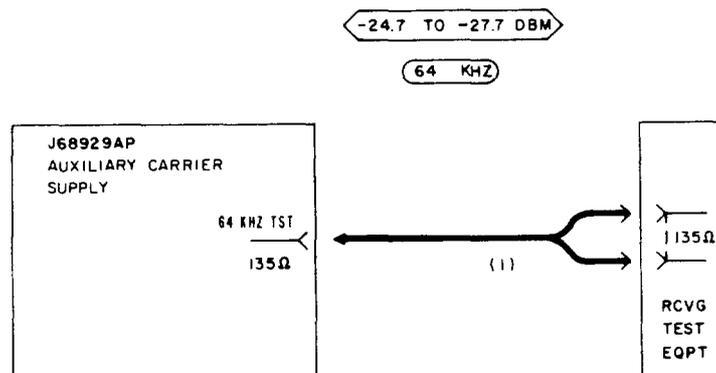

Fig. 10—Patching Diagram—Sync-Frequency Test—Auxiliary Carrier Supply
52 Connect the RTE to the 64KHZ TST jack [patch (1), Fig. 10].
55	Remove patch (1), Fig. 10. I. Carrier Frequencies—Auxiliary Carrier Supply